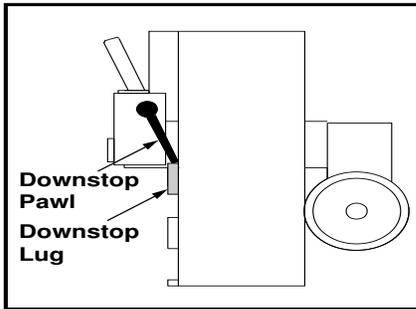

Fig. 5: Downstop pawl and lug identification
2. Visually confirm that the downstop pawls are securely engaged on the downstop lugs of each lift and the raised axle is level (see Fig. 5).